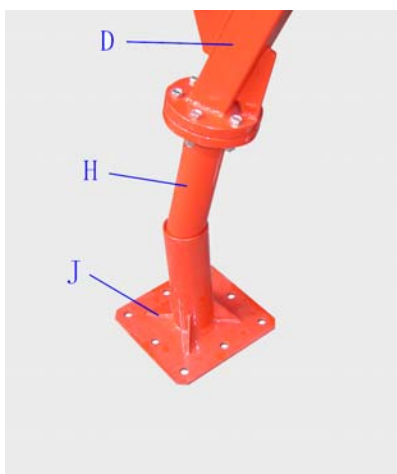

Fig. 6
Secure the Base (J) to the truck bed, garage floor, or where the hoist will be used. Insert the assembled parts ( Main Post, Boom and Jack) to the Base. (See Fig 6).